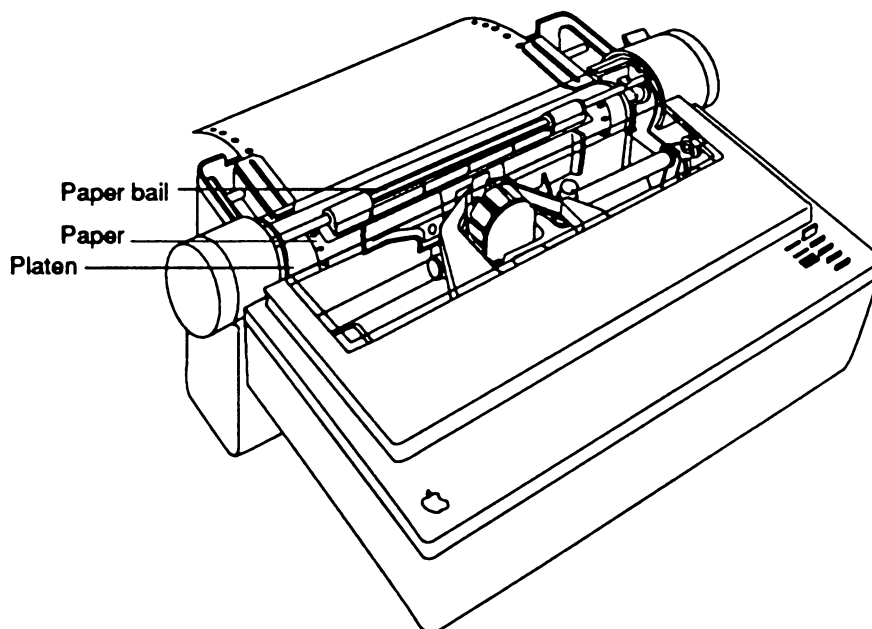

Figure 16. Paper loaded under the paper bail
13. To load the paper into the printer, turn the platen knob clockwise until the leading edge of the paper is between the platen and the paper bail, as shown in Figure 16.